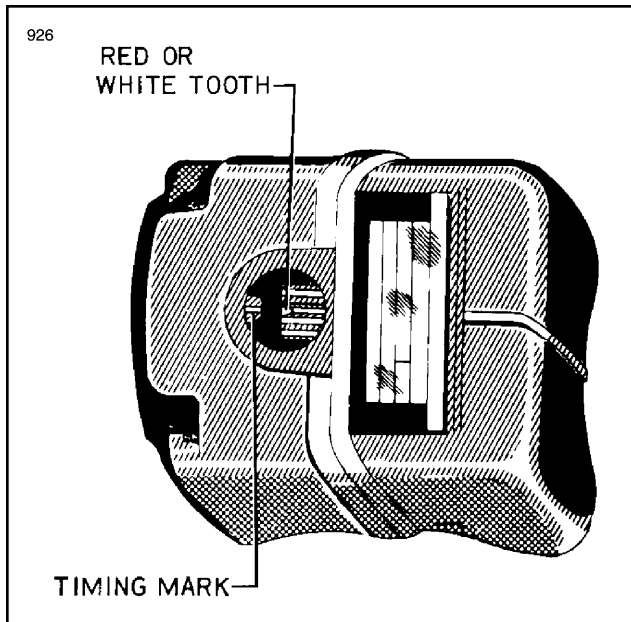
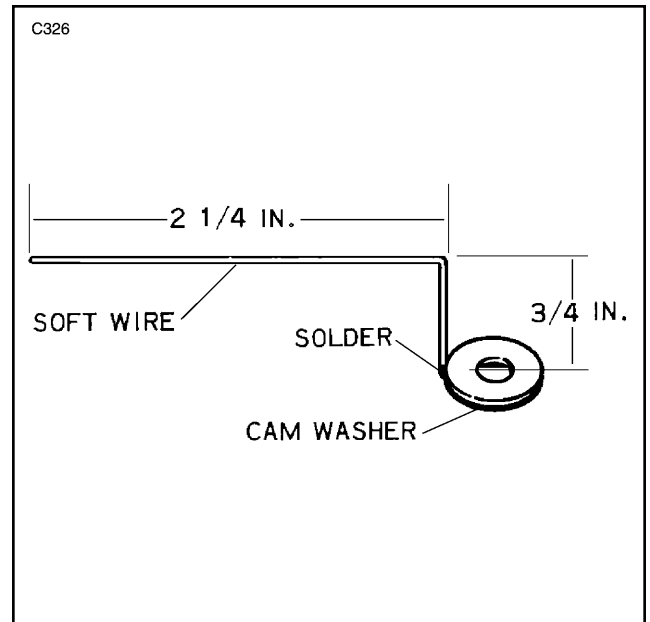

Figure 8-16. Magneto Timing Marks
Figure 8-17. Timing Pointer
- With timing plate and pointer attached. (Refer to Figure 8-17.) and pointer set at zero, rotate coupling from neutral in a left hand direction 10 degrees. Appearing through timing hole, ascertain if the white or red tooth aligns with the white line of the distributor block. (Refer to Figure 8-16.) Alignment may not vary over  $\pm 4$  degrees.
**NOTE:** A timing kit, including timing plate, etc. may be purchased through the engine or magneto manufacturer. A pointer may be formed as shown in Figure 8-17.